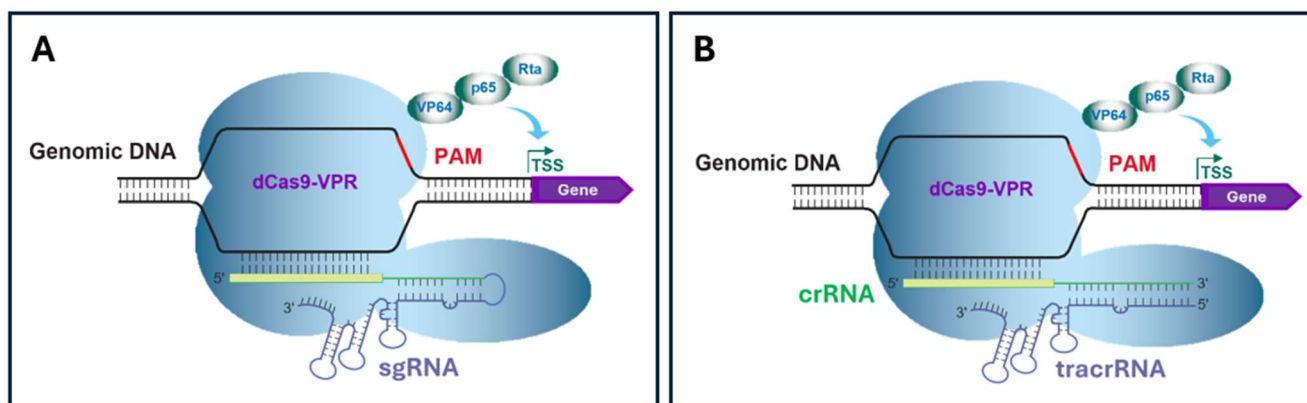

Figure 1. Diagram of dCas9-VPR complexed with target DNA and sgRNA (A) or crRNA:tracrRNA (B) targeting a gene's promoter region
In addition to genome engineering applications in mammalian cells (Jinek et al., 2012), the *Streptococcus pyogenes* CRISPR-Cas9 system has been adapted to technologies for transcriptional regulation (Qi et al., 2013, Gilbert et al., 2013, Cheng et al., 2013). The nuclease activity of the *S. pyogenes* Cas9 can be abolished by point mutations introduced into two catalytic residues (D10A and H840A) yielding a deactivated Cas9 (dCas9) that maintains the ability to bind to target DNA when guided by sequence-specific guide RNAs (gRNAs). When the dCas9 is fused to transcriptional regulators and guided to gene promoter regions, it induces RNA-directed transcriptional regulation. CRISPR-Cas9 based technologies for transcriptional regulation include CRISPR interference (CRISPRi) and CRISPR activation (CRISPRa). CRISPRa utilizes dCas9 fused to different transcriptional activation domains (Cheng et al., 2013, Gilbert et al., 2014, Tanenbaum et al., 2014, Konermann et al., 2015; Chavez et al., 2015), which can be directed to promoter regions by specifically designed gRNA (depicted in **Figure 1**). The VPR activation system utilizes a fusion of three transcriptional activators (VP64, p65 and Rta) to the C-terminal end of dCas9 and demonstrates robust gene activation in mammalian systems (Chavez et al., 2015). Unlike other CRISPRa systems that require expression of the transcriptional activators from separate vectors, the VPR system requires delivery of just two components to the cells of interest: dCas9-VPR and a gRNA, making it easier to utilize across different biological applications.
A CRISPRa gRNA can be either synthetic CRISPR RNA (crRNA) complexed with a trans-activating CRISPR RNA (tracrRNA), or a single guide RNA (sgRNA) where the crRNA has been fused to the tracrRNA creating a chimeric structure **Figure 1** Presents a diagram of dCas9-VPR with a synthetic sgRNA targeting a gene's promoter region (A) or synthetic crRNA:tracrRNA (B) targeting a gene's promoter region. This protocol provides guidance for both the one-part synthetic approach (sgRNA) and two part crRNA:tracrRNA CRISPRa guide.